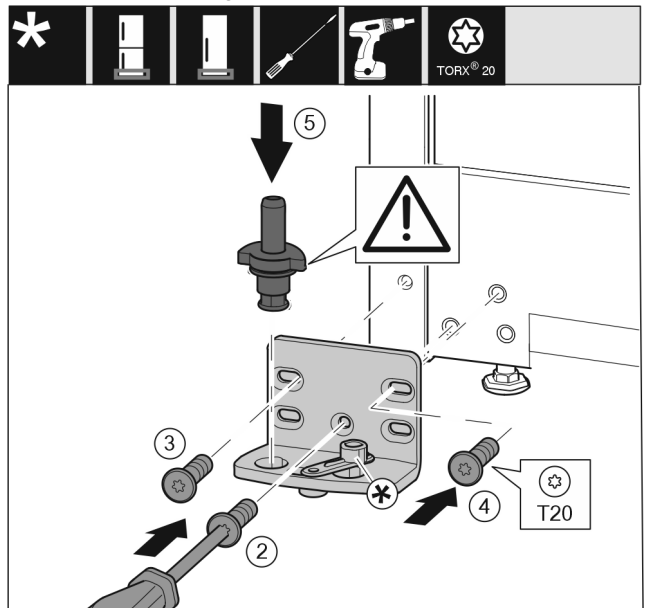

Fig. 18
- ▶ Place the bearing bracket on the other side and screw it in using the T20 screwdriver. Start with screw 2 at the bottom in the middle. Fig. 18 (2)
- ▶ Screw in screws 3 and 4. Fig. 18 (3,4)
- ▶ Insert the bearing pin completely. Make sure that the latching lug is pointing to the rear. *Fig. 18 (5)*